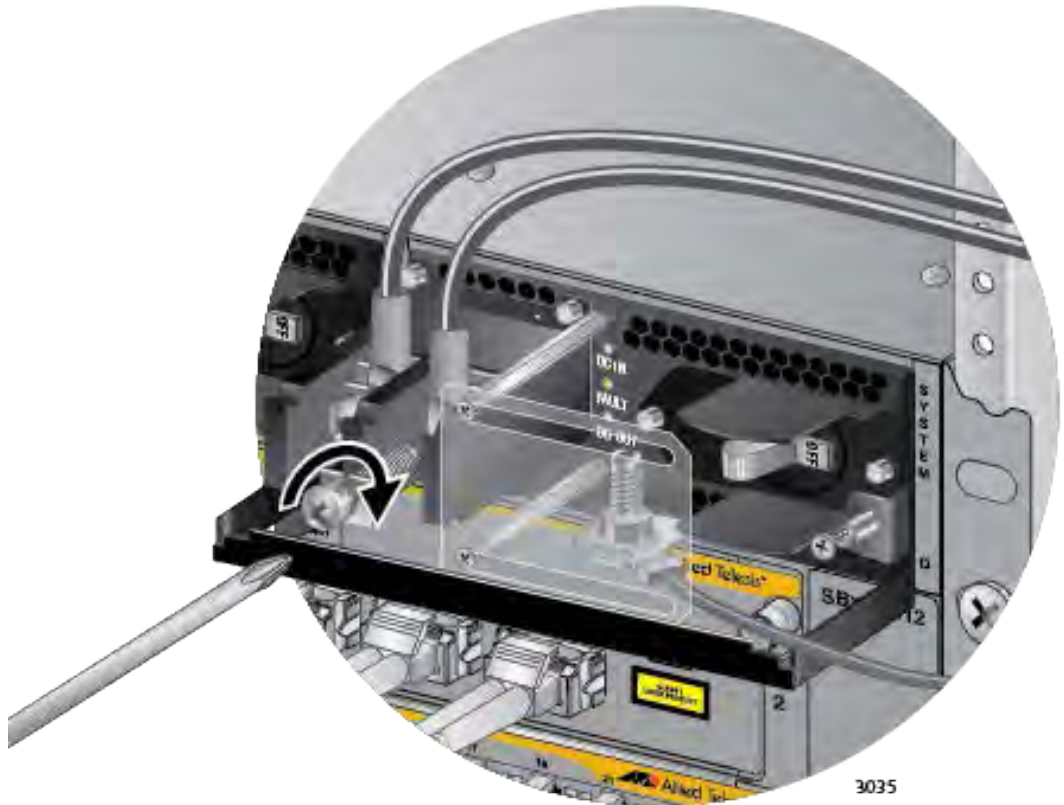

Figure 140. Connecting the Negative (-) Power Wire with a Straight Terminal
7. With a #3 Phillips-head screwdriver, connect the negative (-) power lead wire to the negative terminal on the power supply, with the remaining terminal screw removed in step 5. The negative terminal is on the right. You may attach the terminals with the wires either above or below the terminal block. Figure 140 on page 219 shows the wires above the terminal block.